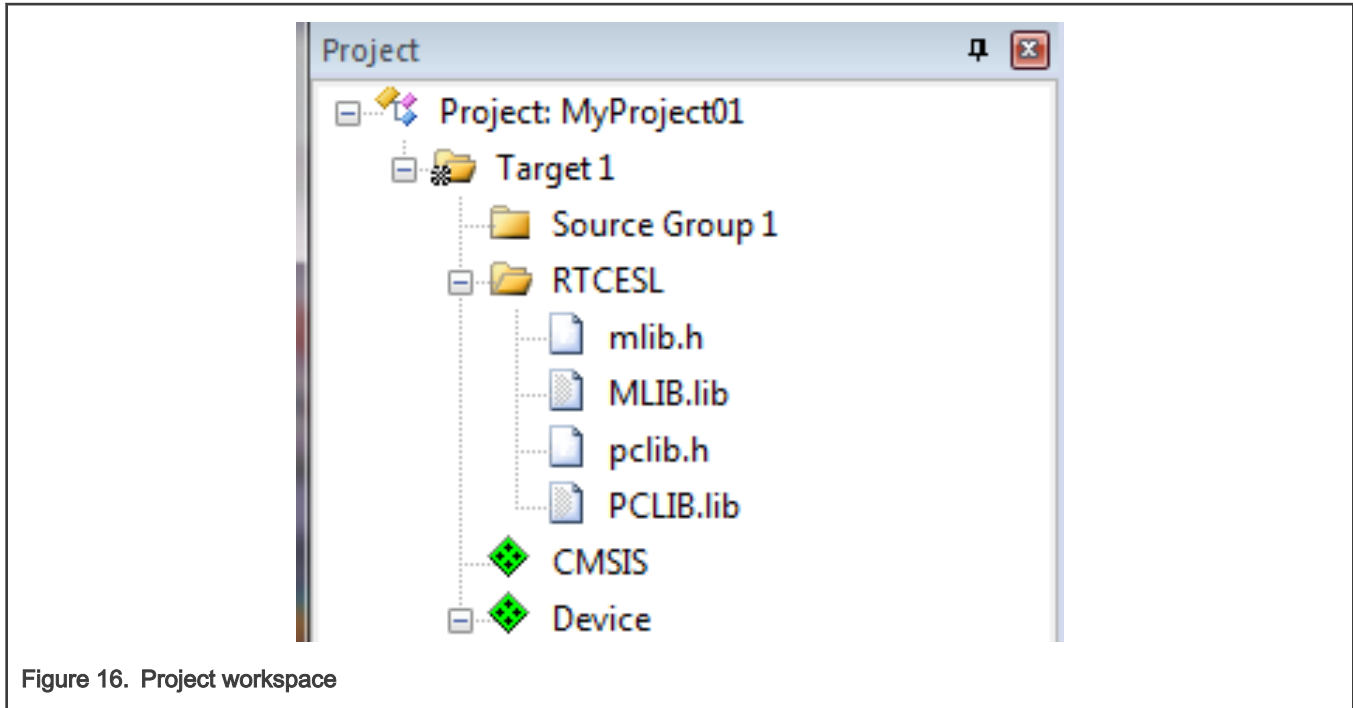

Figure 16. Project workspace
- Now, all necessary files are in the project tree; see Figure 16. Click Close.